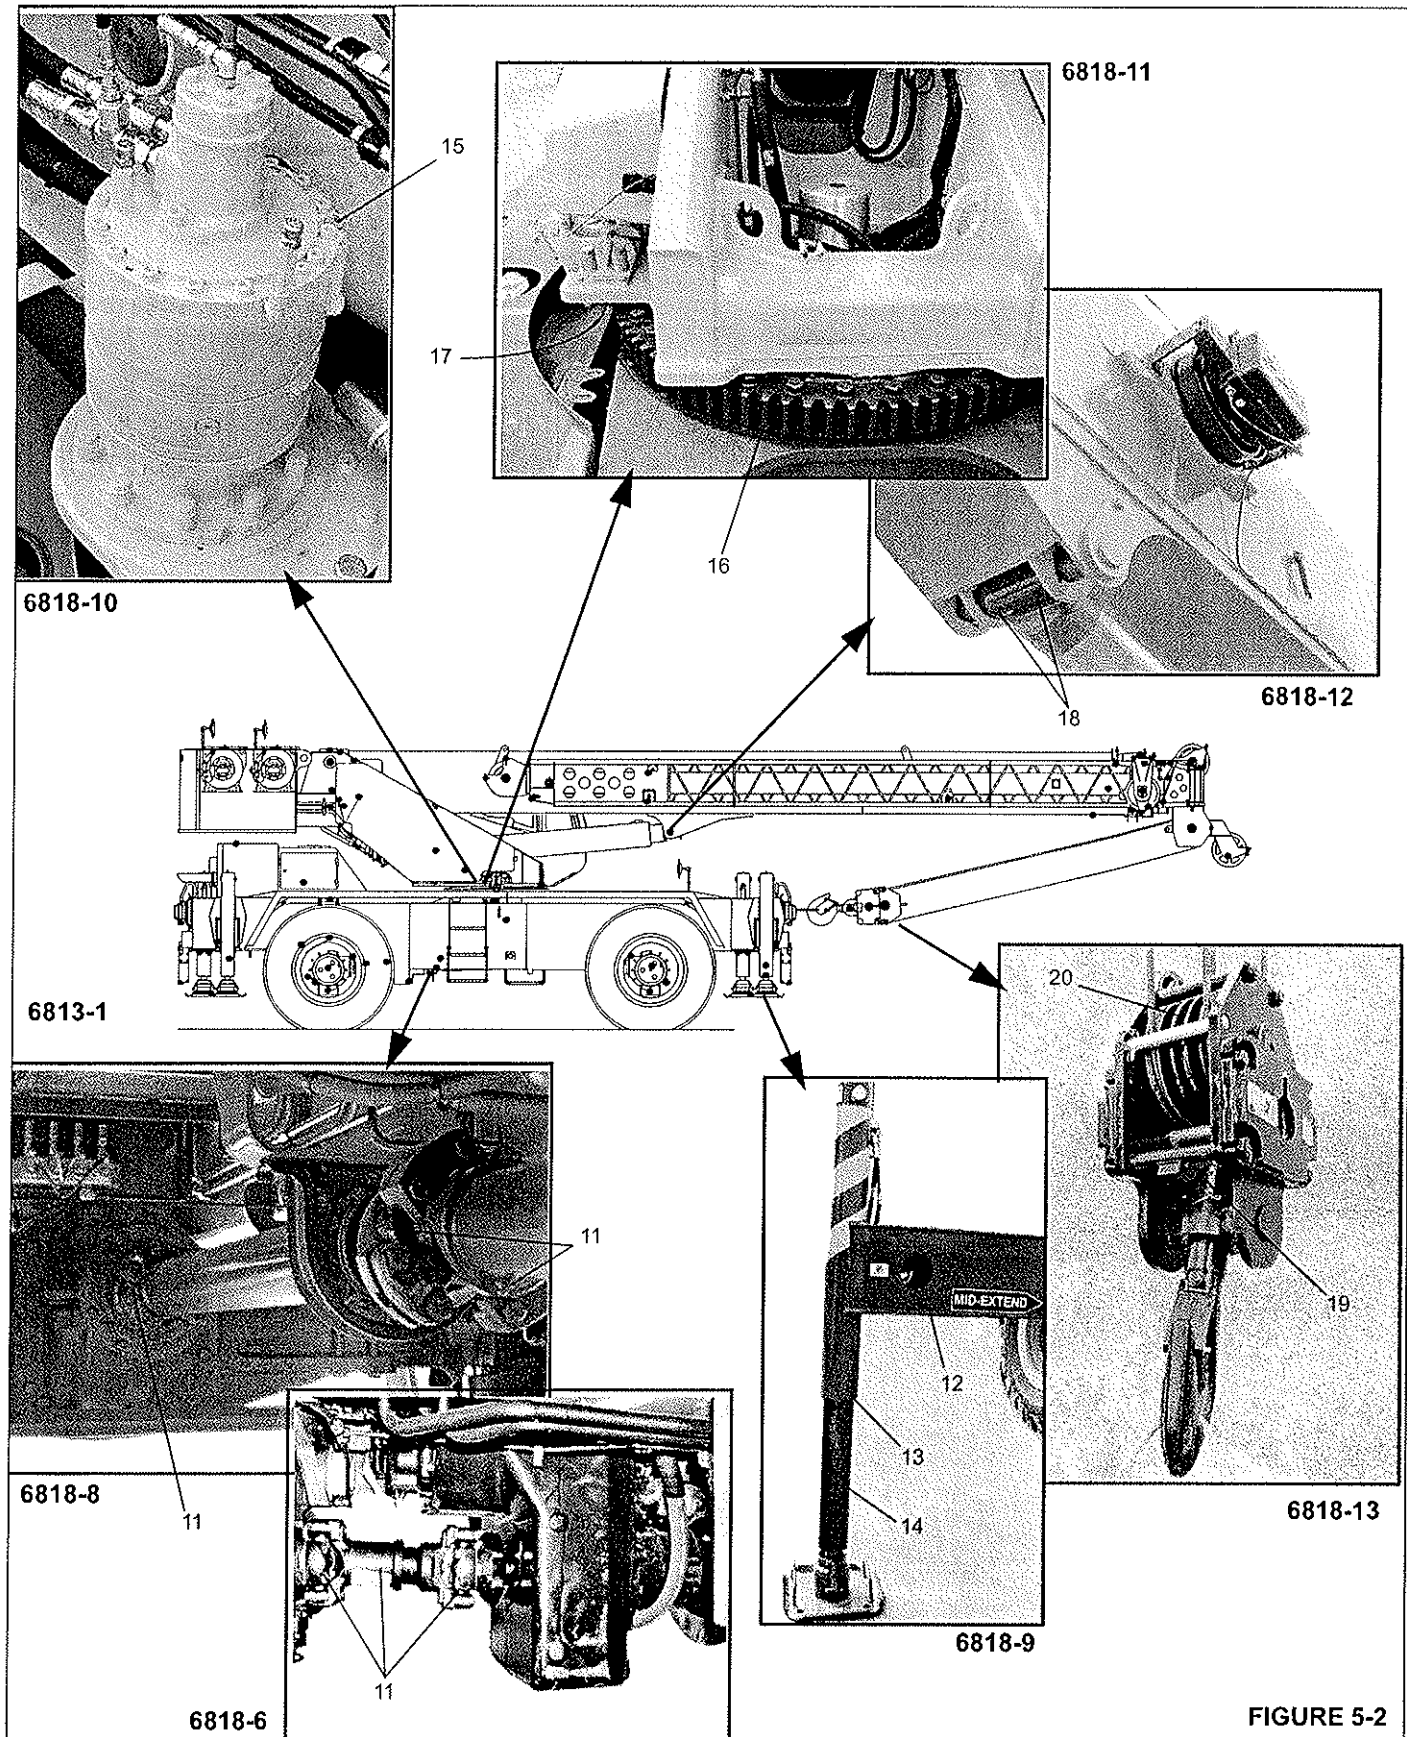

FIGURE 5-2
11. Driveline - Slip and U-Joints (11). (Figure 5-2)
OUTRIGGER LUBRICATION**12. Outrigger Beams (12). (Figure 5-2)**
13. Jack Cylinder Support Tubes (13). (Figure 5-2)
14. Jack Cylinder Barrels (14). (Figure 5-2)
15. Turntable Gear Box (15). (Figure 5-2)
16. Turntable Gear and Drive Pinion (16). (Figure 5-2)
17. Turntable Bearing (17). (Figure 5-2)
18. Upper Lift Cylinder Pivot Pin (18). (Figure 5-2)
20. Hook Block Swivel Bearing (19). (Figure 5-2)